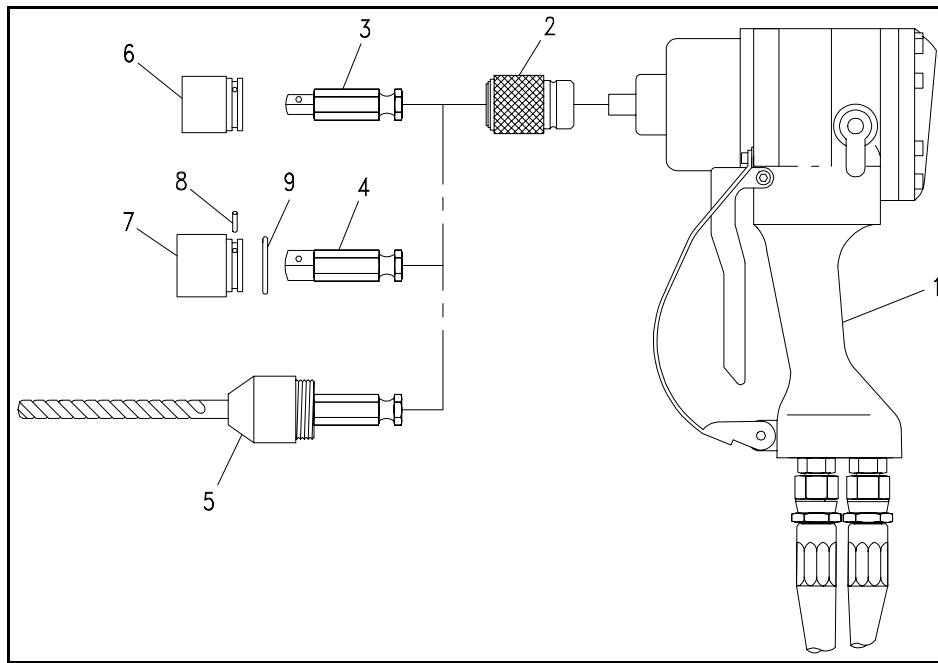

Figure M-2. Sockets and Accessories.
- a. To attach an accessory (Table M-2) to the IW12 hydraulic impact wrench (1, Figure M-2) fitted with 5/8-inch quick change chuck adapter, slide the outer portion of the quick-change chuck (2) forward and drop the accessory into the accessory shaft. The spring-loaded chuck will return to its closed position automatically when it is released.
- b. Use a 5/8-inch hex drive to 1/2-inch square adapter (5) to attach impact sockets.
- d. To secure 1/2-inch impact sockets (6), align the ball on the 5/8-inch hex drive to 1/2-inch square drive with the hole in the socket (6).
- e. To secure 3/4-inch impact sockets (7), insert locking pin (8). Place a rubber locking O-ring (9) over the socket and into the ring groove.